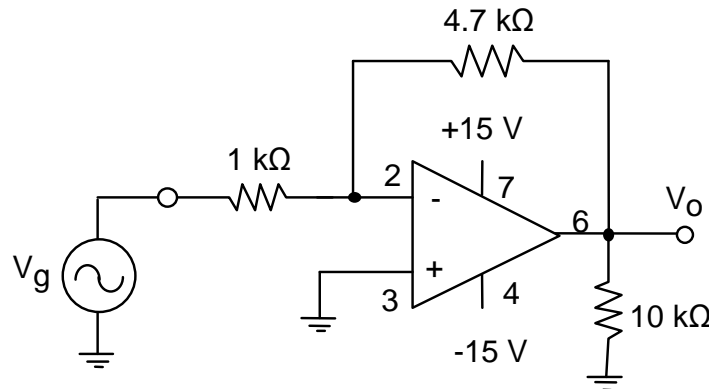

Fig 3: Inverting amplifier schematic
(1) Assemble the inverting amplifier circuit shown in figure 3. Remember to shut off the +/-15 V supply before assembling a new circuit. Cut and bend the resistor leads as needed to keep them flat against the board surface or form them over the IC package.